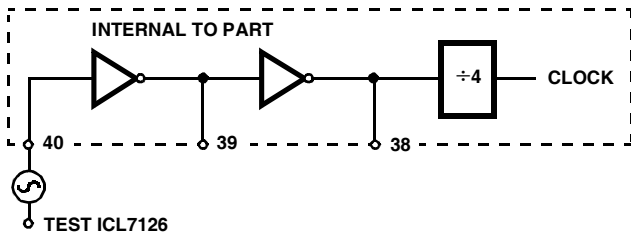

FIGURE 9A. EXTERNAL SIGNAL
1. Figure 9A, an external oscillator connected to pin 40.